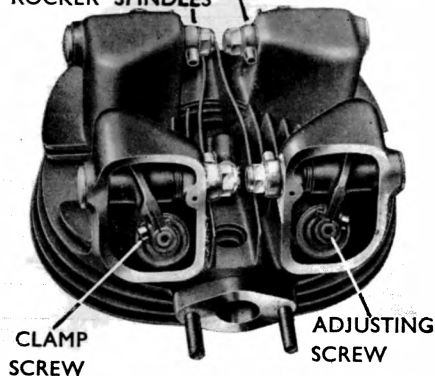

Fig. 4. Model KH
**The spherical combustion chambers** of the cast-iron cylinder heads have inlet and exhaust valves at 80° to each other, operated by spring-loaded overhead rockers, each mounted on a hollow spindle supported by extensions of the head casting and supplied with oil under pressure from the main system. (See Fig. 4). The rockers are operated from the twin camshafts by ball-ended push rods and flat based tappets.